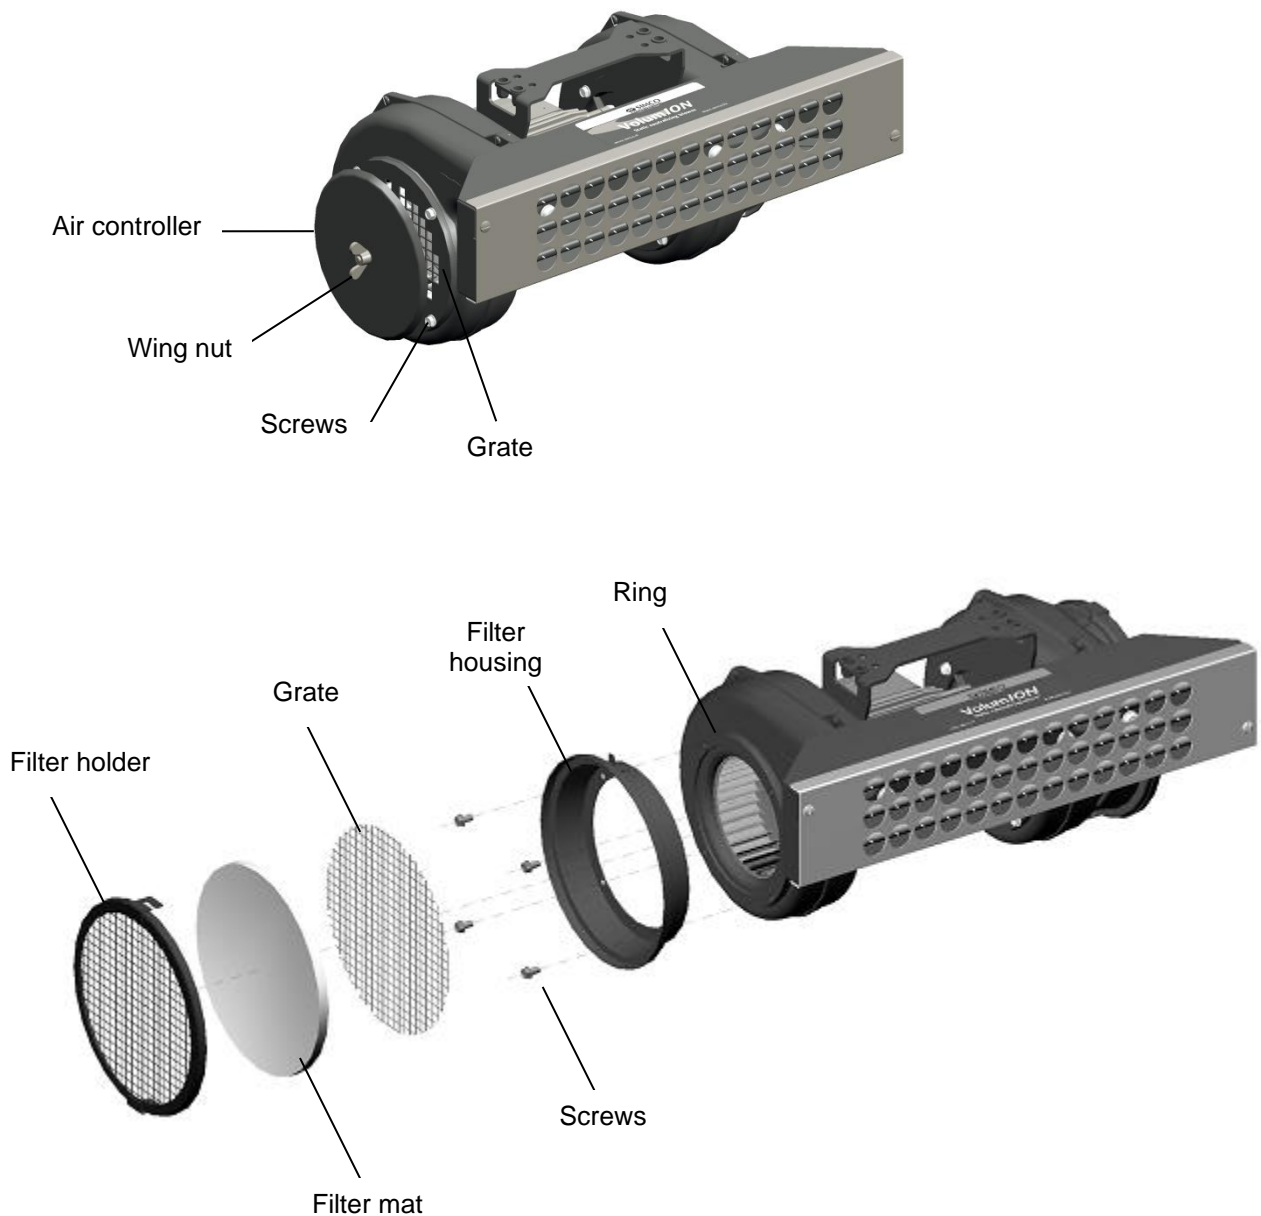

Figure 7: Fitting the air filter
- Turn the two screws a quarter turn to the right so the front plate is firmly fastened to the air duct. Make sure that the holes of the front plate are centred in relation to the emitter points. See figure 7.